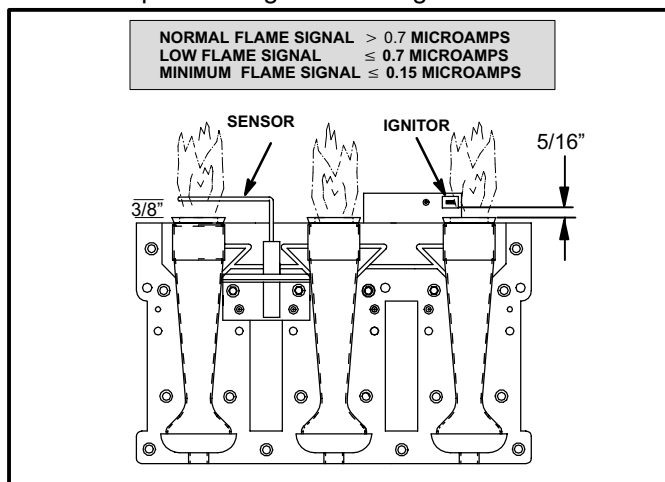
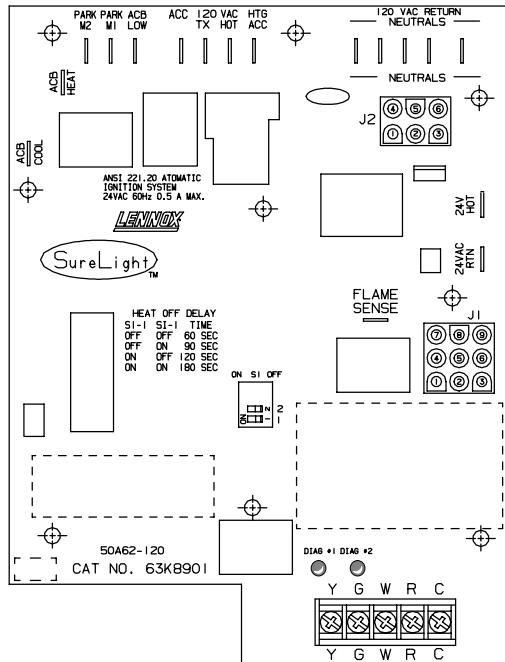

FIGURE 8
FIGURE 10
A flame sensor is located on the left side of the burner support. See figure 8. The sensor is mounted on a bracket in the burner support and the tip protrudes into the flame envelope of the left-most burner. The sensor is fastened to burner supports and can be removed for service without removing any part of the burners. During operation, flame is sensed by current passed through the flame and sensing electrode. The SureLight control allows the gas valve to remain open as long as flame signal is sensed.
All G26-3 through -6 model units are equipped with the Lennox Sure - Light ignition system. The system consists of ignition control board (figure 10 with control terminal designations in table 1) and ignitor (figures 8 and 11). The board and ignitor work in combination to ensure furnace ignition and ignitor durability. The SureLight integrated board controls all major furnace operations. The board also features two LED lights for troubleshooting and two accessory terminals rated at (4) four amps. See table 2 for troubleshooting diagnostic codes. Table 3 and 4 show jack plug terminal designations. Units equipped with the SureLight board can be used with either electronic or electro-mechanical thermostats without modification. The SureLight ignitor is made of durable silicon-nitride. Ignitor longevity is also enhanced by voltage ramping by the control board. The board finds the lowest ignitor temperature which will successfully light the burner, thus increasing the life of the ignitor.